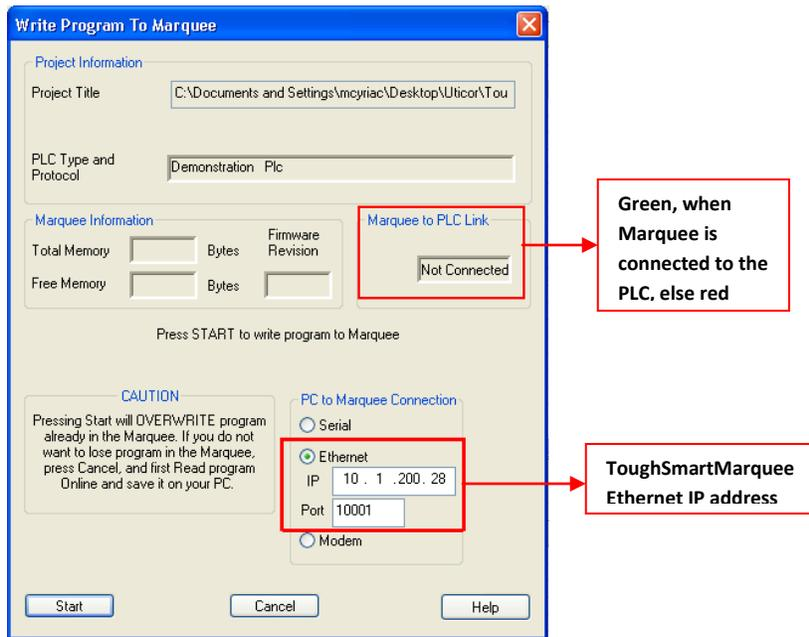

Fig 3.4 Write Program to Marquee
2. A dialog box appears as shown in Fig 3.4